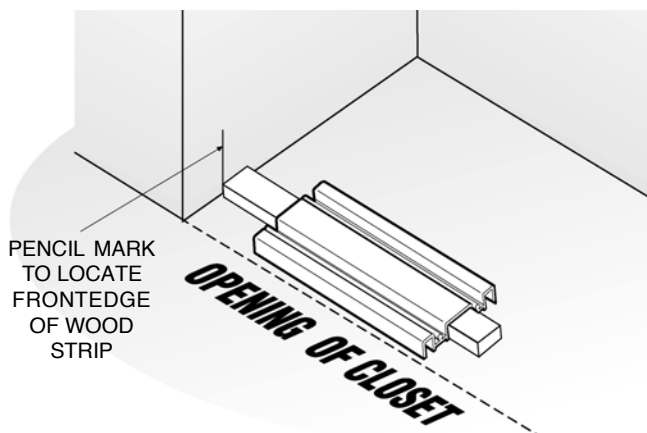

Figure 3
- D. Place front of Wood Strip (#4) up to pencil mark on wall (See Figure 3). Do this on both sides. Now attach Wood Strip (#4) according to your Offset Measuring Table.